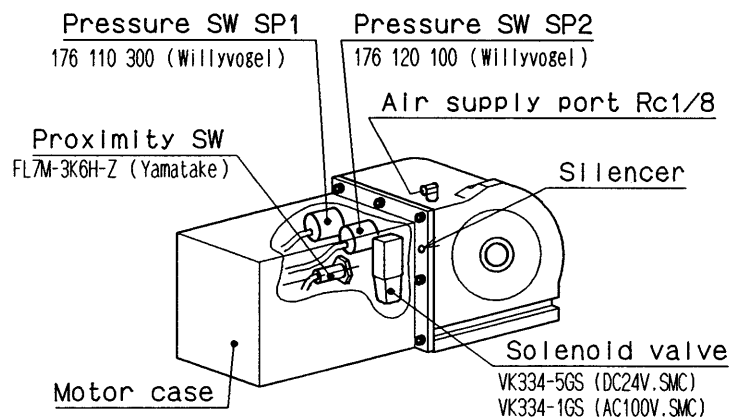

Fig. 1
2) The air supply port of Rc1/8 is as shown in Fig.1. Connect the air hose to this port.
To perform correct procedure, be sure to check clamp/unclamp. (See Fig.1)
The solenoid valve is incorporated as shown in Fig.1.